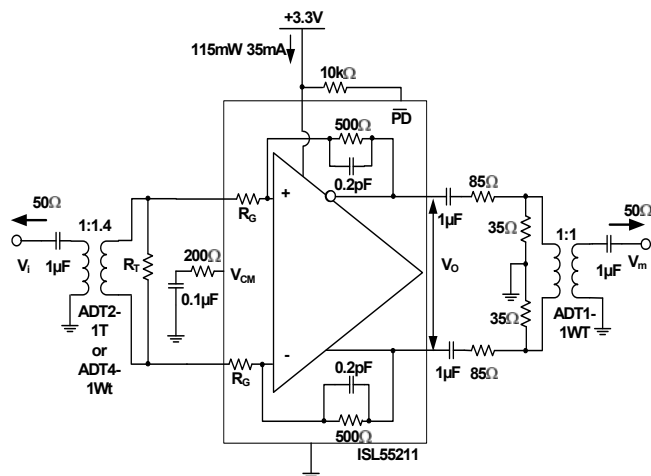
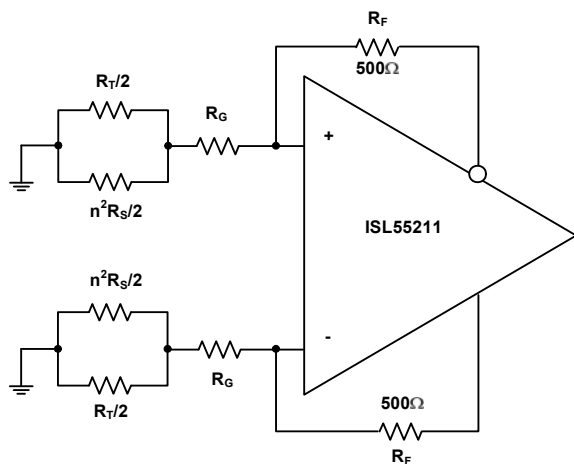

FIGURE 29. TEST CIRCUIT 1
FIGURE 35. NOISE GAIN MODEL FOR THE TRANSFORMER COUPLED INPUT CIRCUIT OF FIGURE 29
Test Circuit 1 of Figure 29 forms a starting point for many of the characterization curves for the ISL55211. Since most lab sources and measurement devices are single-ended, this circuit converts to differential at the input through a wideband transformer and would also be a typical application circuit coming from a single-ended source. Assuming the source is a 50Ω impedance, the internal  $R_G$  resistors and external  $R_T$  are set to provide both the input termination and the gain. Since the inverting summing nodes act as virtual ground points for AC signal analysis, the total termination impedance across the input transformer secondary will be  $(2 \cdot R_G) \parallel R_T$ . Setting this equal to  $n^2 \cdot R_S$  will give a matched input impedance inside the bandwidth of the transformer (where "n" is the turns ratio). The amplifier gain is fixed by the selected input  $R_G$  element and the internal 500Ω feedback resistors. While the ISL55211 is internally a Voltage Feedback Design (VFA) to give the lowest possible noise, internal compensation caps hold the bandwidth over gain setting approximately constant at 1.4GHz. For wider small signal bandwidth at lower gains, consider the ISL55210, which provides >2.2GHz at a gain of 12dB.
Working with a transformer coupled input as shown in Figure 29, or with two DC blocking caps from a differential source, means the output common mode voltage set by either the default internal  $V_{CM}$  setting, or a voltage applied to the  $V_{CM}$  control pin, will also appear as the input common mode voltage. This provides a very easy way to control the ISL55211 I/O common mode operating voltages for an AC-coupled signal path. The internal common mode loop holds the output pins to  $V_{CM}$  and, since there is no DC path for an  $I_{CM}$  current back towards the input in Figure 29, that  $V_{CM}$  setting will also appear as the input common mode voltage. It is useful, for this reason, to leave any input transformer secondary centertap unconnected. The internally set  $V_{CM}$  voltage is referenced from the negative supply pin. With a single 3.3V supply, it is very close to 1.2V but will change with total supply voltage across the device as shown in Figure 27.
Most of the characterization curves starting with Figure 29 then get different gains by changing the connections to the two pairs of input  $R_G$  connections, as shown on the pin configuration drawing on page 2. Two input turns ratios are intended for Test Circuit 1; either a 1:1.4 turns ratio (ohms ratio of 2) or a 1:2 turns ratio (ohm ratio of 4). The specific transformers shown in Figure 29 are representative of broadband RF transformers but alternate devices and manufacturers of these turns ratio devices are certainly applicable. The output side of this test circuit presents a differential 200Ω load while converting the differential to single-ended through a resistive attenuator and a 1:1 transformer. This inserts approximately a 17dB insertion loss that is removed to report the characteristic curves. For load tests below the 200Ω shown in Figure 29, a simple added shunt resistor is placed across the output pins. For loads > 200Ω, the series and shunt load R's are adjusted to show that total load (including the 50Ω measurement load reflected through the 1:1 output measurement port transformer) and provide an apparent 50Ω differential source to that transformer. This output side transformer is for measurement purposes only and is not necessary for final applications circuits. There are output interface designs that do benefit from a transformer as part of the signal path as shown in Figure 1. In that case, the 1:1.4 output side transformer becomes part of a filter design and recovers the filter insertion loss from the amplifier output pins to the ADC inputs.
The characterization circuit of Figure 29 shows one possible input stage interface that offers several advantages. Where AC coupling is adequate, the circuit of Figure 29 simplifies the input common mode voltage control. If the source coming into this stage is single-ended, the input transformer provides a zero power conversion to differential. The two gain resistors ( $R_G$  in Figure 29) provide both a portion of the input termination impedance and the gain element for the amplifier. For 50Ω systems, these  $R_G$  resistors are too high with the turns ratios shown in Figure 29 to provide the full match and an external  $R_T$  resistor is required. This  $R_T$  element goes away at the highest gain setting using a 1:2 input turns ratio transformer.
This input interface also simplifies the input common mode control. The  $V_{CM}$  pin controls the output common mode voltage. In most DC-coupled FDA applications, the input common mode voltage is determined by both this output common mode and the source signal. In a configuration like Figure 29, there is no path for a common mode current to flow from output to input, so the input common mode voltage equals the output. A similar effect could be achieved with just two blocking caps on the two  $R_G$  resistors. A DC-coupled, single to differential, configuration will also have a common mode input that is moving with the input signal. Converting to just a differential signal at the amplifier, as in Figure 29, removes any input signal related artifacts from the input common mode making the ISL55211 behave as a differential only VFA amplifier. There is only a very small differential error signal at the inputs set by the loop gain, as in a
of 1.3V for instance, then  $1.3V + 0.9V + 1.5V = 3.7V$  will give an unclipped 3.6VP,P output capability. The  $V_{P,P}$  reported in Figure 27 is an asymmetrically clipped maximum swing. Going 10% above this 3.7V target to 4.1V will be within the recommended operating range and give some tolerancing headroom that would also suggest the  $V_{CM}$  voltage be moved up to approximately 1.5V, which coincides with the default output  $V_{CM}$  from Figure 27. Operating at +4.1V single supply in a Figure 29 type configuration will give the maximum linear differential output swing of 3.6VP,P.
The differential inputs internal to the ISL55211 also have operating range limits relative to the supply voltages. Operating in an AC-coupled circuit like Figure 29 will produce an input common mode voltage equal to the outputs. The inputs can operate with full linearity with this  $V_{CM}$  voltage down to 1.1V above the  $-V_S$  supply. On the default 1.2V output  $V_{CM}$  on +3.3V supplies this gives a 100mV guardband on the input  $V_{CM}$  voltages. Overriding the default  $V_{CM}$  by applying a control voltage to the  $V_{CM}$  pin should be done with care in going towards the negative supply due to this limit. On the + side, the maximum input  $V_{CM}$  above the  $-V_S$  supply is 2V so there is more room to move the output  $V_{CM}$  up than down from the default value.
Adding an input transformer can improve the input referred noise by adding a noiseless voltage gain. Starting from Test Circuit 1 of Figure 29, and assuming the source shows a matched broadband source  $R_S$  that will be matched by the input referred parallel combination of  $2 \cdot R_G \parallel R_T$ , a noise gain analysis circuit can be developed as shown in Figure 35.
Stepping through the 3 gain settings with two input transformers will allow the noise gain to be calculated for the circuit of Figure 35, which is all that is needed in Equation 1 to arrive at an output differential noise (since  $R_F$  is fixed at 500Ω). Doing this gives Table 4.
2. AC-coupled, higher frequency range interstage filter design. This design replaces the  $R_T$  resistors in Figure 35 with large valued inductors and implements the filter just using shunt resistors at the end of the RLC filter. In this case, the ADC  $V_{CM}$  can be tied to the centerpoint of the bias path inductors (very much like a Bias-T) to provide the common mode voltage and current to the ADC inputs. These bias inductors do limit the low frequency end of the operation where, with  $1\mu\text{H}$  values, operation from 10MHz to 200MHz is supported using the approach of Figure 37.